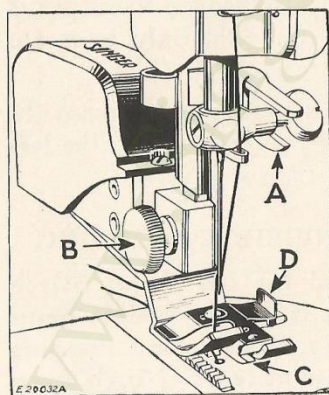

FIG. 236. ATTACHMENT
Guide the attachment into position from the rear of the machine so that the fork (A) straddles the hub of the needle clamp, as shown in Fig. 236, and securely fasten the attachment to the presser bar with the regular presser foot thumb screw (B).
The depth of the tacking or sidewise stitches is regulated by the adjustable edge guide (C, Fig. 236).
For heavy fabrics, it may be necessary to increase the depth of the tacking stitches by moving the guide (C) to the **right** by means of the holder (D, Fig. 236).
For light weight fabrics, it may be necessary to decrease the depth of the tacking stitches by moving the guide (C) to the **left** by means of the holder (D, Fig. 236).